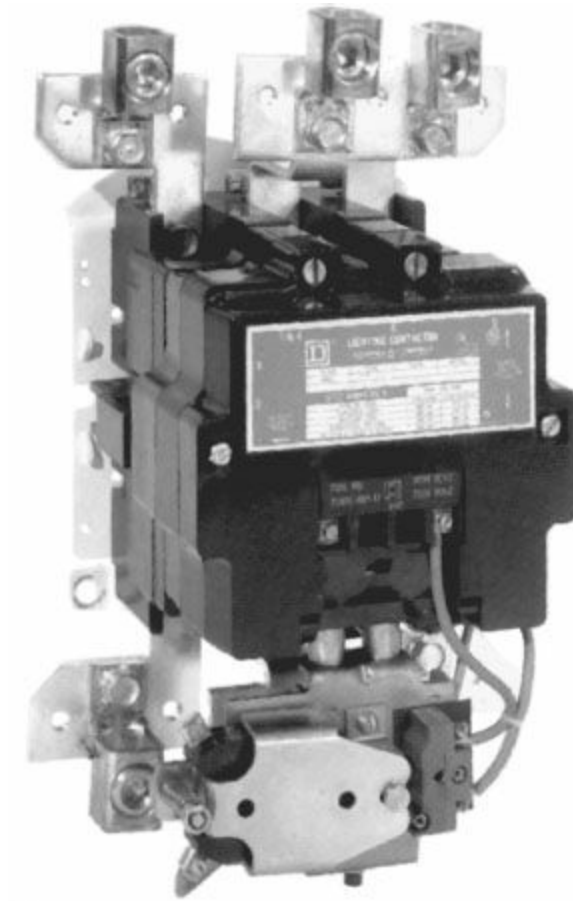

FIGURE 4.17 A typical 200-A lighting contactor. (Courtesy Square D Co.)
There are many different types of lighting contactors. Some common types include the multipole, programmable, and standard ampere-rated contactors. Many use silver-cadmium-oxide contacts, which can hold up to 800 amperes (A). While most control tungsten, ballast, and other lighting resistance loads, others are designed for alarm systems, elevators, traffic controls, irrigation systems, and door locks. Most contactors also have available hardware kits containing compression lugs, which can be suitable for both copper and aluminum wire. Figure 4.17 shows a typical lighting